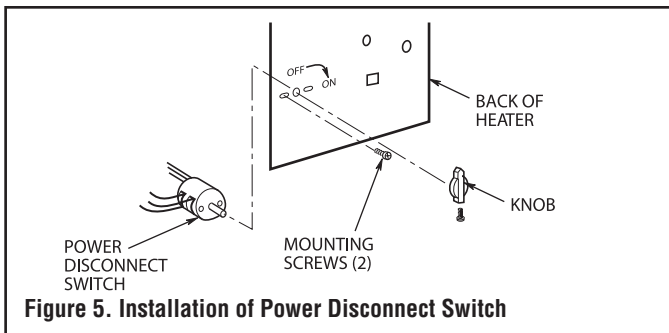

Figure 5. Installation of Power Disconnect Switch
3. Install power disconnect switch with two mounting screws as shown in Figure 5.